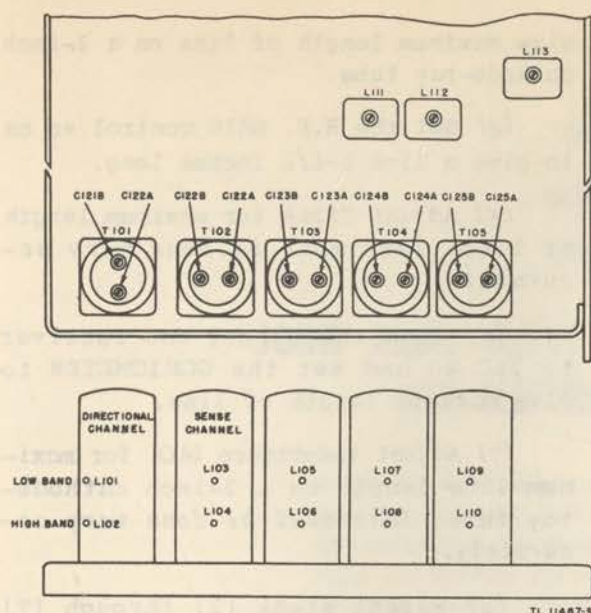

Figure 132. R-f trimmer locations.
(1) Necessary alignment frequencies are: inductance (core adjustment) 260 kc, and capacitance (trimmer adjustment) 580 kc.
(2) With the equipment set up as for i-f alignment connect the signal generator to the signal grid (pin No. 8) of V104 in the modulator-receiver unit (fig. 130). Adjust the oscillator coil L409 (fig. 132) and trimmer C125a for maximum output at the frequencies given above. Repeat until the alignment is accurate at both frequencies.